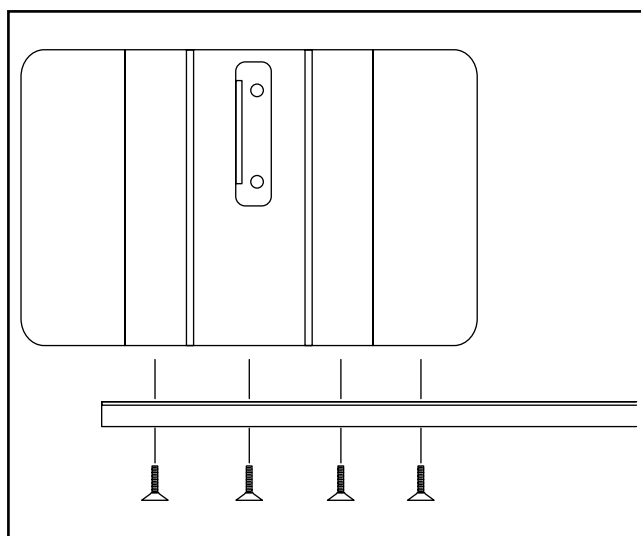

Figure 9. Front rail attachment procedure.
3. Attach the front rail to the table top using the hex socket flathead screws supplied. See **Figure 9**. Place a combination square set at $\frac{25}{32}$ " , at the edge of the table, and adjust the rail so it is consistently $\frac{25}{32}$ " below the top of the table.